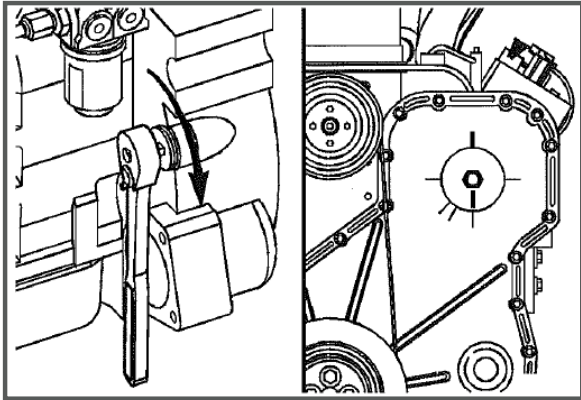

FIGURE 7
8. Using the engine barring tool, rotate the crankshaft 360 degrees to align the mark on the fuel pump gear with the mark on the gear cover that is 180 degrees away from top dead center (6 o'clock). See Figure 7.